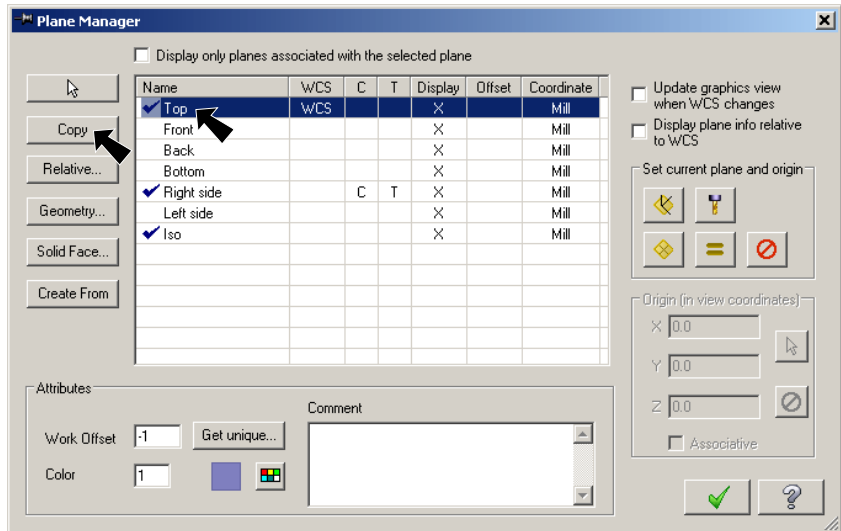

Fig. 24
Step 2. With the Top plane selected, click **Copy** button in the Plane Manager dialog, **Fig. 24**.